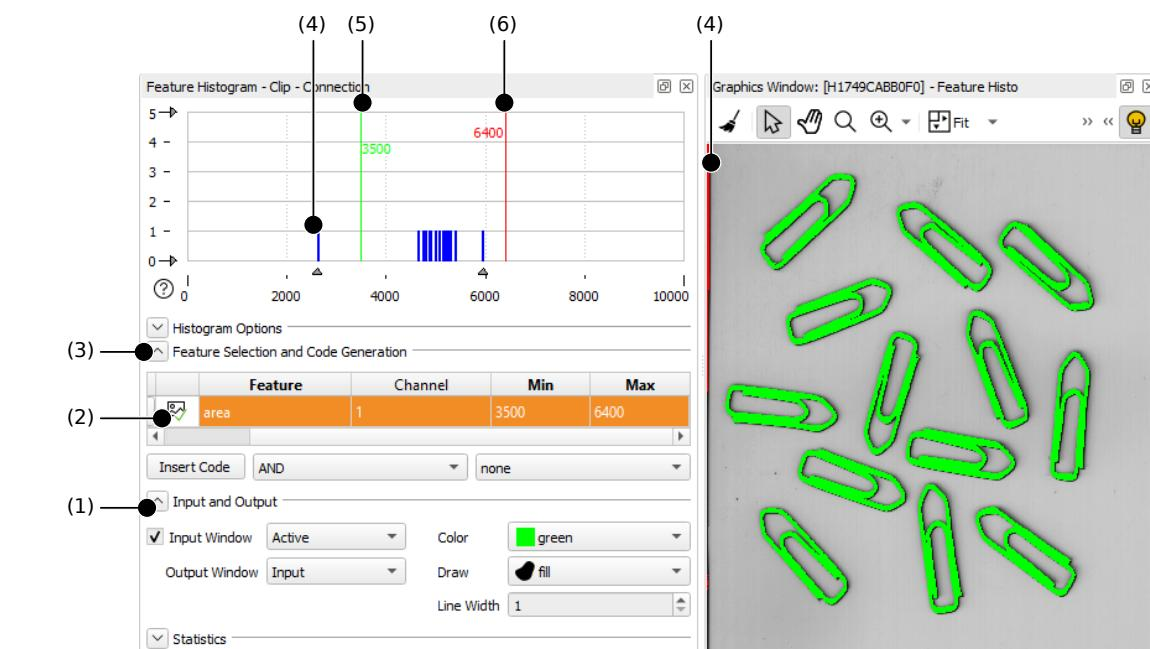

Figure 4.8: Selecting regions with a similar area in the feature histogram.
Inspecting the variable `ConnectedRegions` after the changed threshold operation yields a much better result. Still, a contiguous area at the left edge of the image is returned (4), see figure 4.8. To obtain only the regions that coincide with the clips, we need to further reduce the found regions based on a common criterion. Analogous to the gray histogram tool, which helps to select regions based on common gray values, HDevelop provides a feature histogram tool, which helps to select regions based on common properties or features.